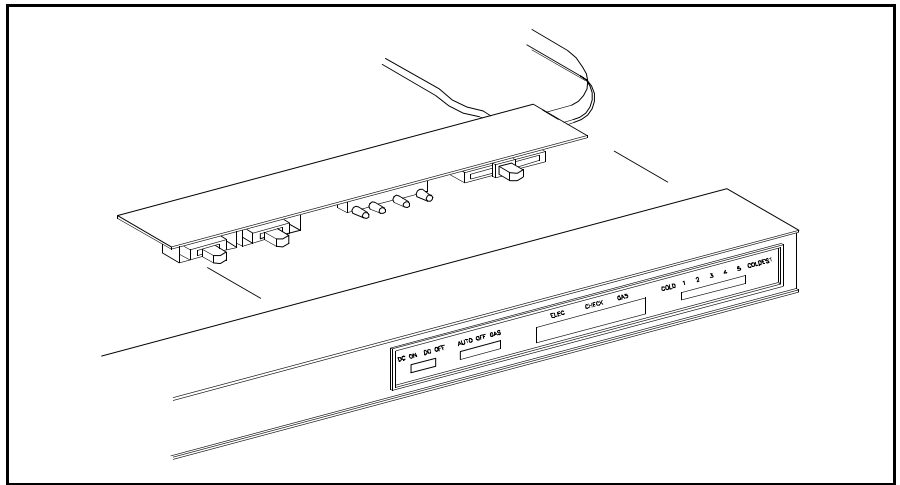

Figure 5.28 Eyebrow Board Removal
13. Remove the Eyebrow board from the Eyebrow shown in Figure 5.28.